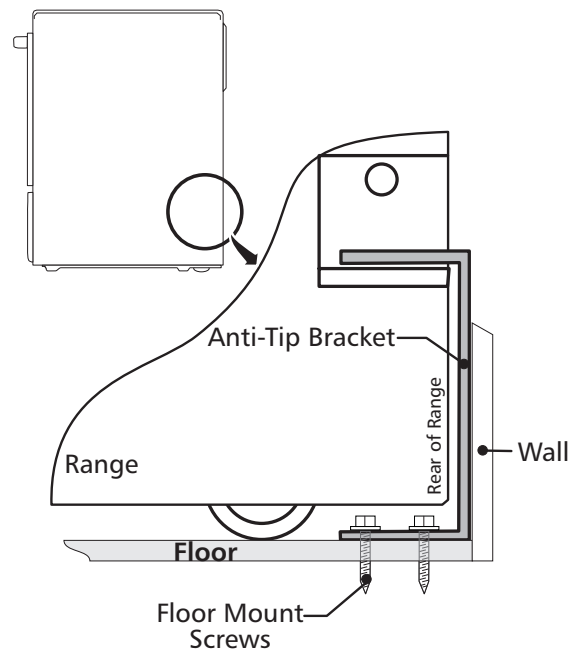

Figure 19
4. Remove template and place bracket on floor. Line up holes in bracket with marks on floor and attach with 4 screws provided. Bracket must be secured to solid floor (Figure 19). If attaching to concrete floor, first drill 3/16" (0,48 cm) dia. pilot holes using masonry drill bit.
6. Slide range into place making sure structure of the range is trapped by the anti-tip bracket (Figure 19). Lower the range by adjusting the 4 leveling legs until the underside of the cooktop is sitting level on the countertop. Refer to "Leveling the Range" section.